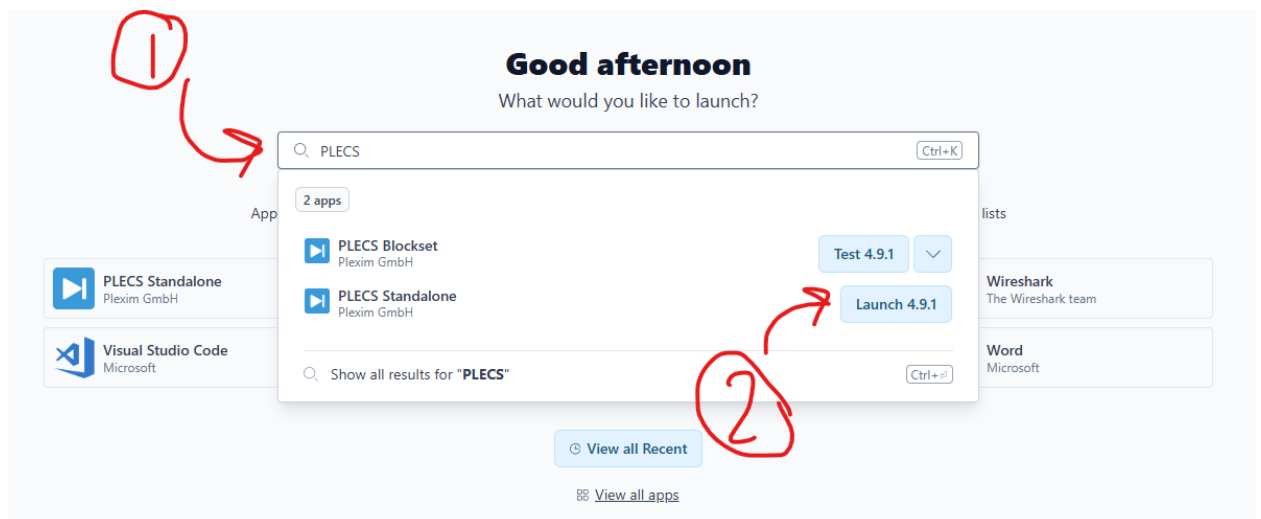

Figure 3: Lunching PLECS.
- 2- Using AppsAnyWhere main window, type PLECS in the search bar and two versions of PLECS will appear. The **PLECS Blockset** is used if PLECS is intended to be utilized with MATLAB while **PLECS Standalone** is for the direct access of PLECS without MATLAB integration. For this experiment, we are using PLECS Standalone; click on Launch to lunch PLECS Standalone. This step is shown in Figure 3.